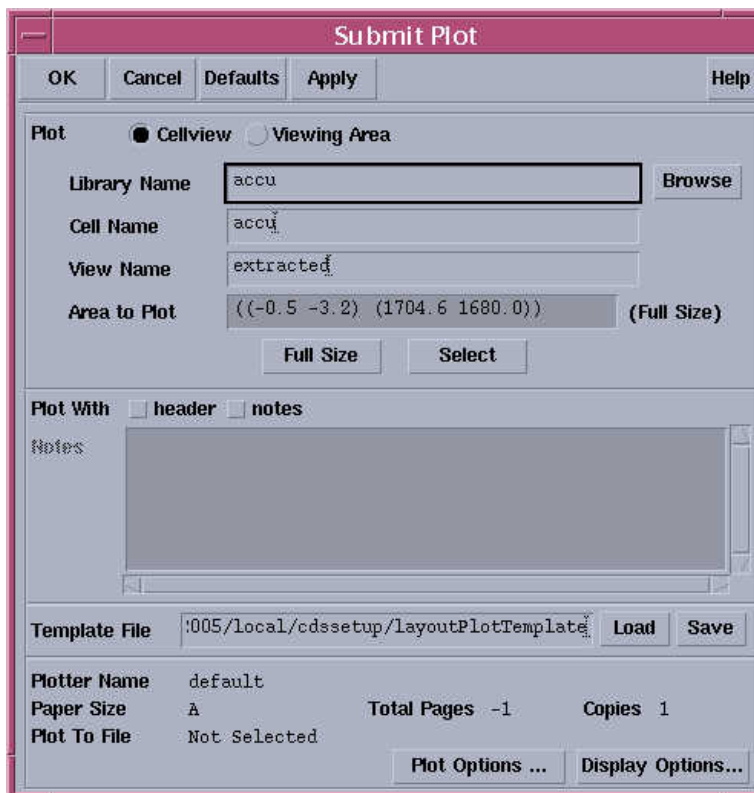

Figure 9. Submit Plot Window.
- In the schematic/layout editor in icfb, go to **Design->Plot->Submit...** (window opens as shown in Figure 9.)